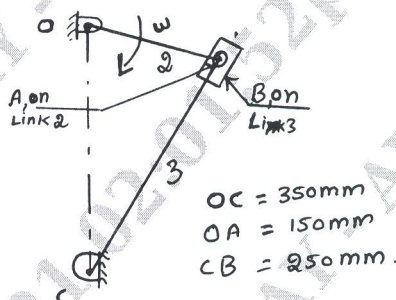

Fig.Q3
- 3 The Fig.Q3 shows a quick return mechanism. Link 2 rotates uniformly at 20 rad/sec, in clockwise direction. Determine the angular acceleration of link 3.